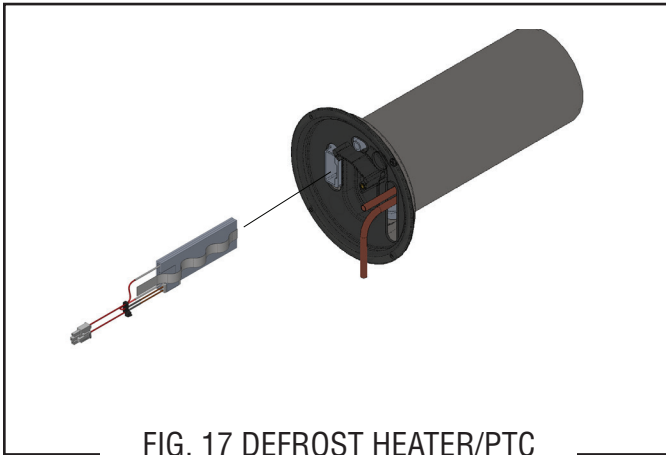

FIG. 17 DEFROST HEATER/PTC
7. Locate and grab the defrost heater spring clip, pull on the spring clip to remove defrost heater from drum housing. See FIG. 17 & 18.